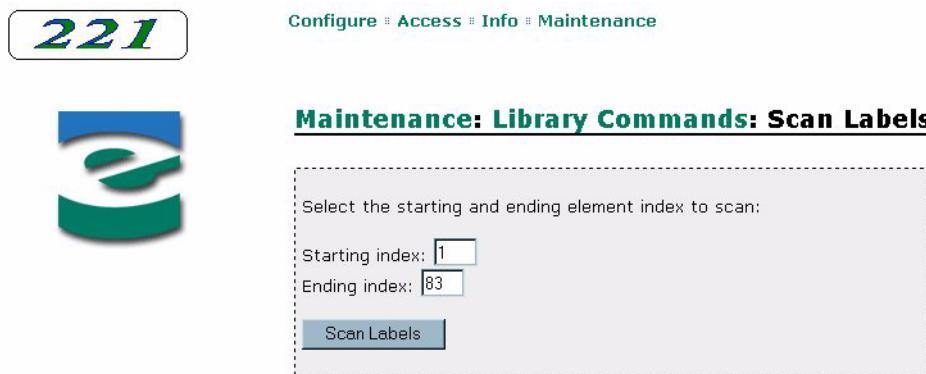

Figure 6-38 Remote management utility – Scan Labels page
4. Click on Scan bar code labels. A page similar to Figure 6-38 appears.